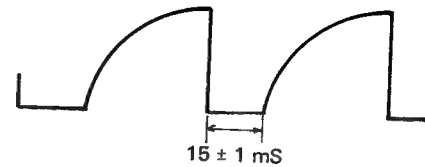

Figure 8-1.
2. Monitoring TP4 with an oscilloscope (internal trigger), adjust R709 so that the requirement given in Figure 8-1 be met. (Apply no video signal at this time.)